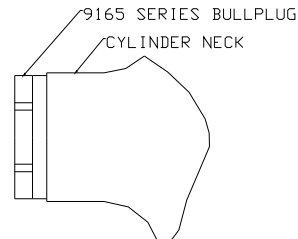

FIGURE 2
3. Screw 9165 bullplug body in cylinder. SEE FIGURE 2